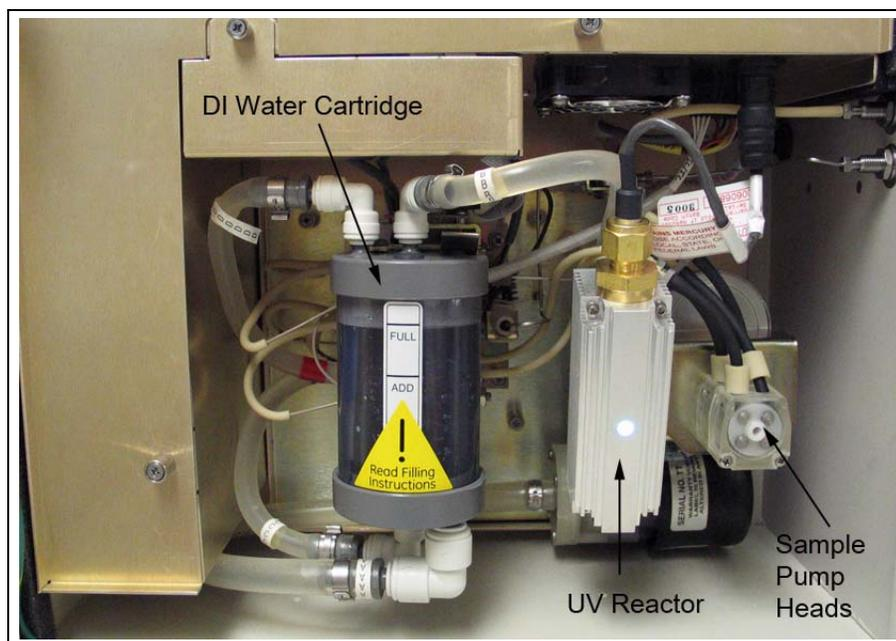

Figure 33: Interior Overview of the Analyzer
4. Locate the DI water cartridge at the center of the Analyzer (see Figure 33 on page 154).
4. Locate the UV lamp enclosure at the right of the Analyzer (see Figure 33 on page 154). The UV enclosure has a brass nut and a gray wire with a black connector extending from the nut.
5. Locate the sample pump heads (see Figure 33 on page 154).
5. Locate the DI water cartridge (see Figure 33 on page 154).